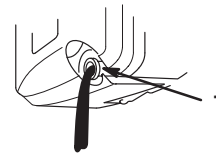

Figure 16
- Tip the lawn mower onto its **left** side, allowing the oil to drain into the drain pan (Fig. 16).